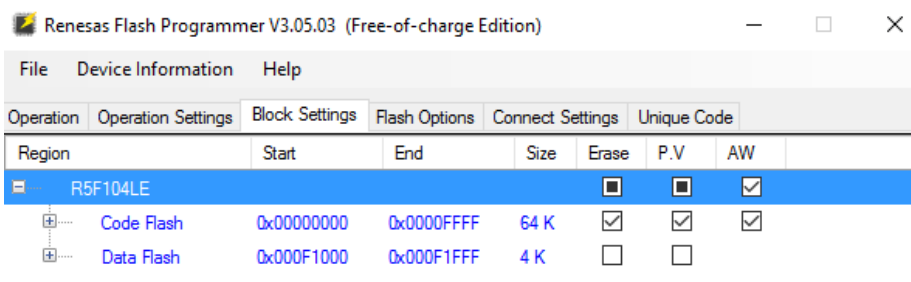

Figure 10. Memory Block Setting For ASI5 Firmware Update
2. Enable flashing only in the **Code Flash** section as shown in Figure 10.